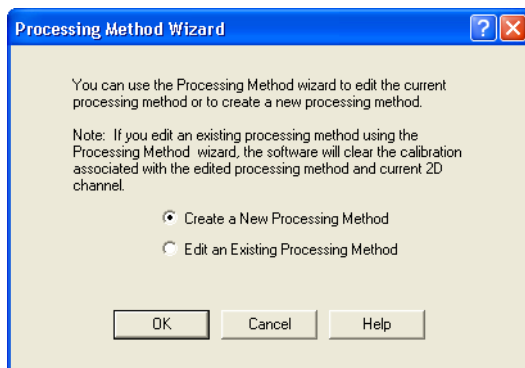

Figure 4-18 Processing Method Wizard Dialog Box
4. Click  (Processing Method Wizard) on the Empower toolbar. This activates the Processing Method Wizard. The Processing Method Wizard dialog box appears (Figure 4-18).